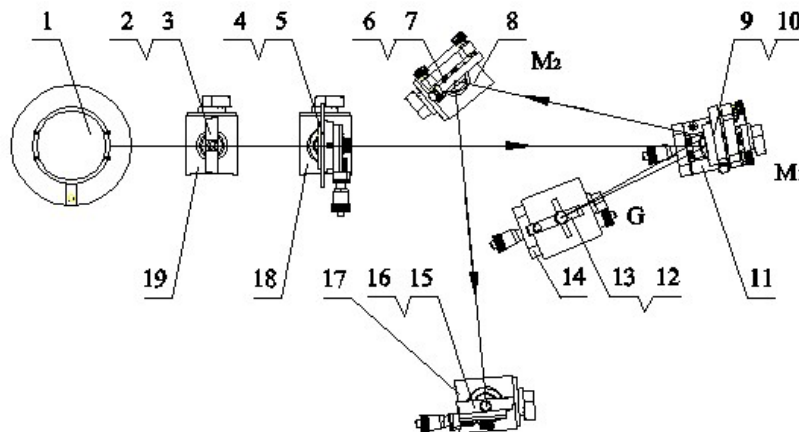

Figure 21-1 Schematic of experimental setup
- 1) Refer to Figure 21-1, align all component in same height and let the primary plane of the system parallel to the table;
- 3) Set each component according to Figure 21-1, check the light field on M_2 , M_1 and G , make sure no part of the light path is blocked and the central portions of these components are illuminated; set the distance between the grating and the spherical mirror to be about 200 mm.